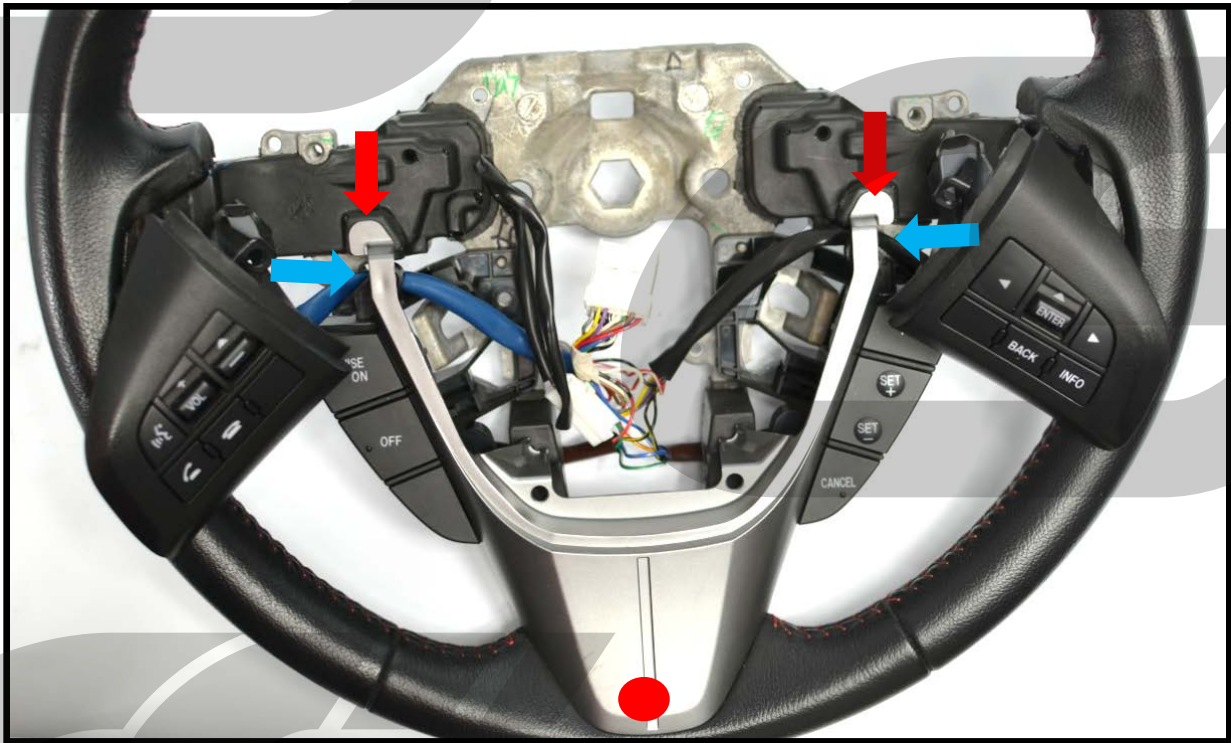

Figure 4c
- d) Gently pull the primary button clusters straight up until they have fully disengaged from the steering wheel. Shown in **Figure 4c**. NOTE: Routing of the wires shown with the **blue arrows** for re-assembly.
- e) Gently pull the silver bezel and secondary button clusters straight up until they have fully disengaged from the steering wheel. The attachment points are shown with the **red arrows and red dot** shown in **Figure 4c**.